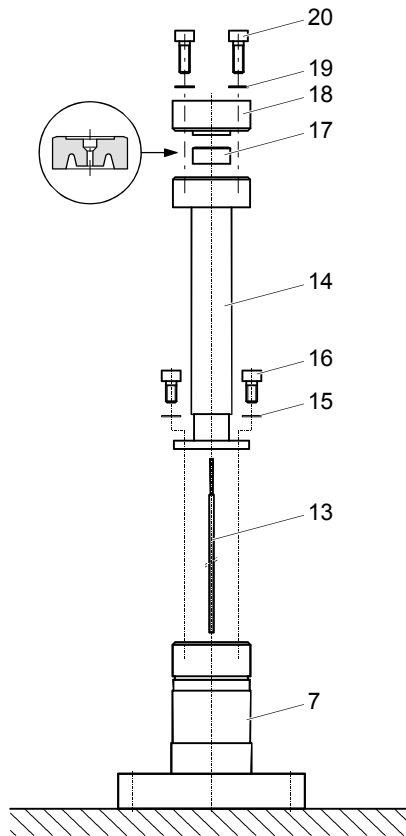

Figure 5
- 9 Place the complete measuring chamber with the flange pointing downwards on a table and carefully slide the extension piece (13) over the anode pin (→ Figure 5).
- 10 Carefully slide the tube (14) over the extension piece and secure it with the two screws (16) incl. lock washers (15).
- 11 Carefully slide the insulator (17) over the extension piece (13) as shown in Figure 5 and secure the pressure piece (18) with the two screws (20) incl. lock washers (19).